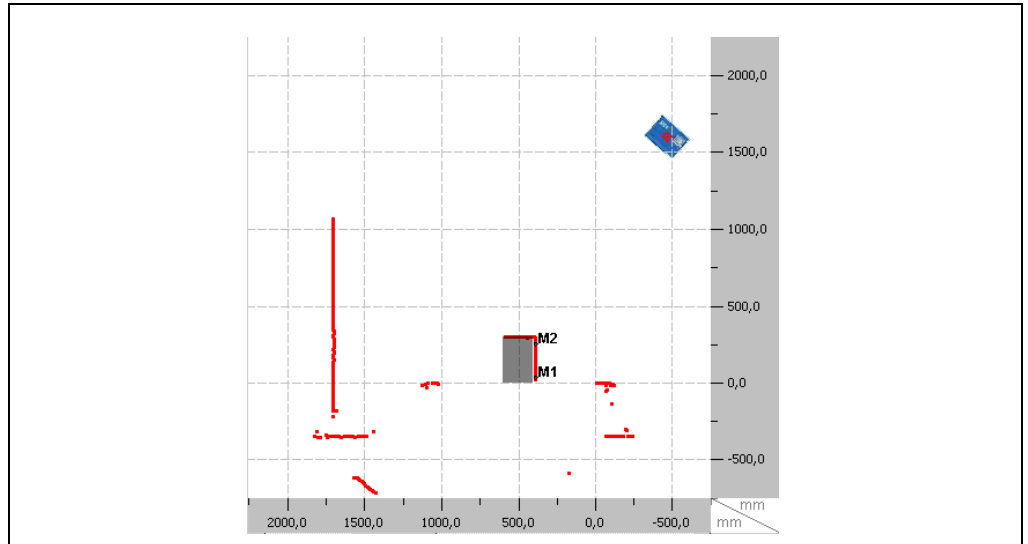

Fig. 24: Example scanned test object
- Define on the scan line which part of the surrounding contour on the right side corresponds to the object. For this purpose position two marks using the right mouse button (see Fig. 24).